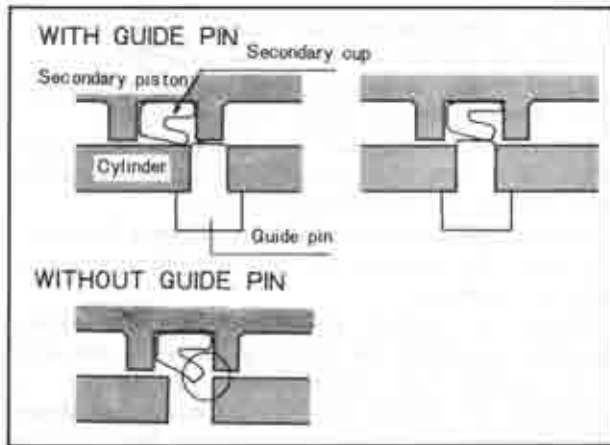

Fig. 11-9 Piston guide pin
8. Pushing in the secondary piston with a screwdriver, remove the set bolt and insert the guide pin in its place. Then, gradually take out the screwdriver and remove the secondary piston and cups assembly and floating spring from the cylinder. (See Fig. 11-9).